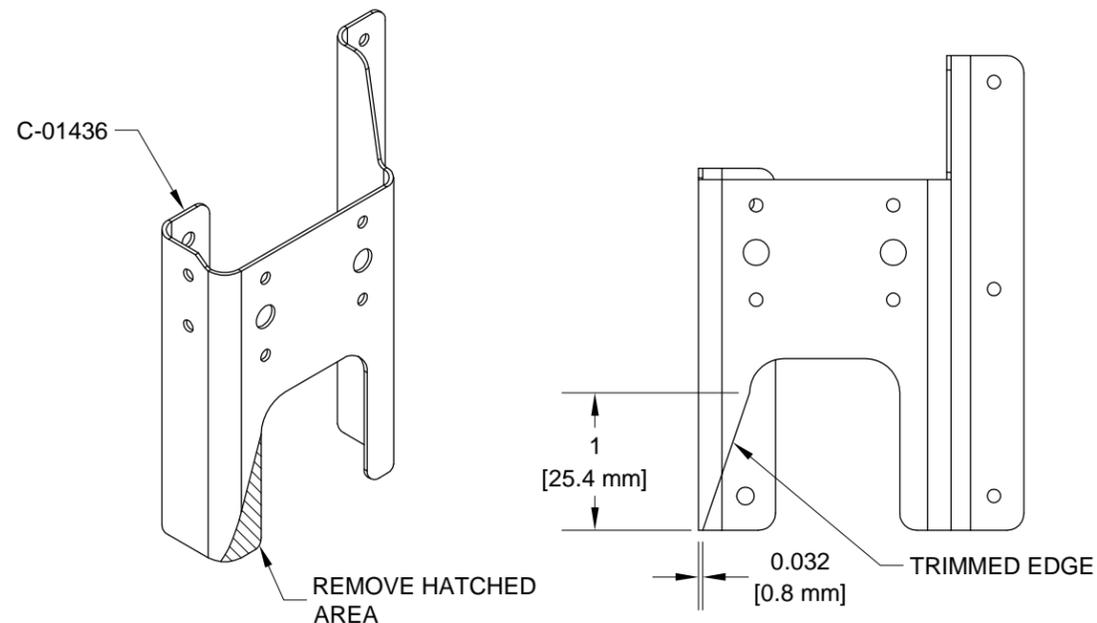

FIGURE 2: C-01436 PIVOT BLOCK CHANNEL TRIM
Step 5: Remove the hatched area from the C-01436 Pivot Block Channel as shown in Figure 2 for better rivet squeezer / bucking bar access and deburr.